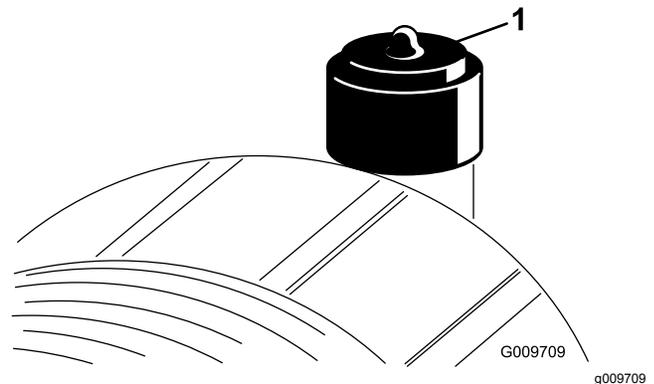

Figure 45
- Replace the air cleaner element when the air-cleaner indicator (Figure 45) shows red. Do not over-clean the air-filter element.